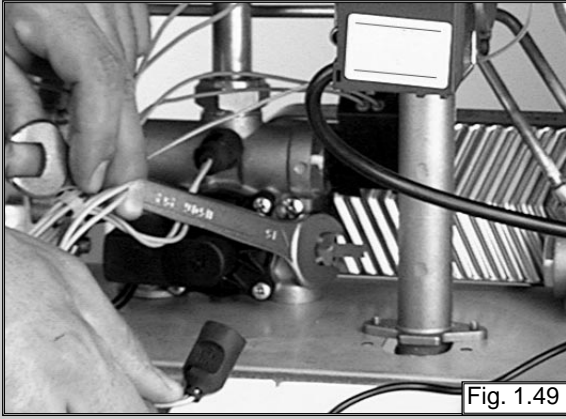

Fig. 1.49
1. Remove the electrical connector by pulling off the thermostat connection and unscrew the sensor probe with a 14 mm open ended spanner (see fig. 1.49).